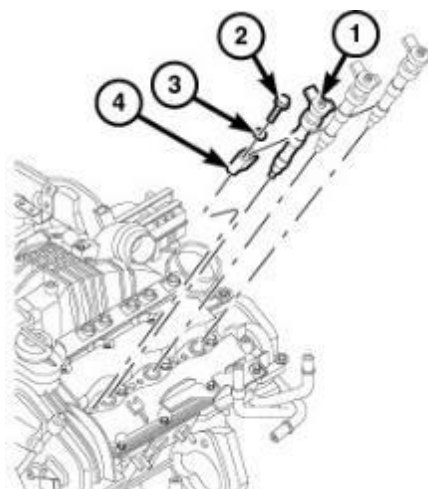

Figure 59 - Fuel Injector Removal
42. Remove the fuel injector hold-down bolt (2), washer (3), and retaining claw (4) (Figure 59).
43. Using your hand, pull fuel injector (1) straight up from cylinder head for removal. Discard lower sealing washer and injector (Figure 59).
55. Install the fuel injector (1), tensioning claws (4), washer (3) and bolt (2). Tighten the bolt (2) to 33 N·m (24 ft. lbs.) (Figure 59).